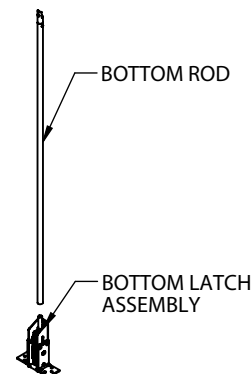

FIGURE 2-1
- A. Screw bottom rod into latch assembly (see Figure 2-1).